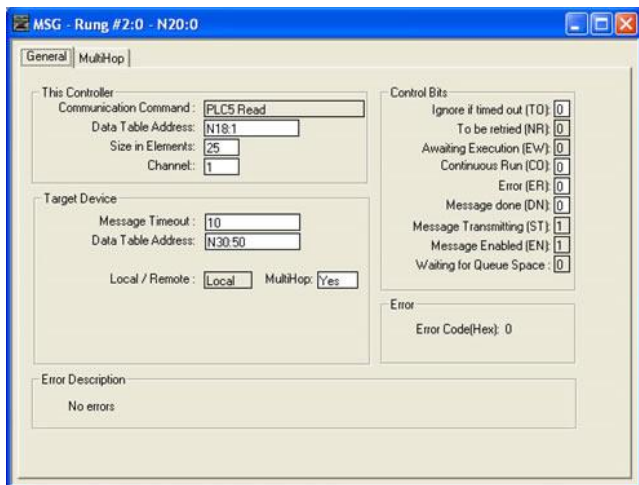

Figure 67: MSG Configuration, "General" Tab
- Upon hitting the <ENTER> key while in the “Control Block” entry box, the MSG Properties dialog box should appear (or it can be opened by clicking on the “Setup Screen” button at the bottom of the MSG instruction). Refer to Figure 67.